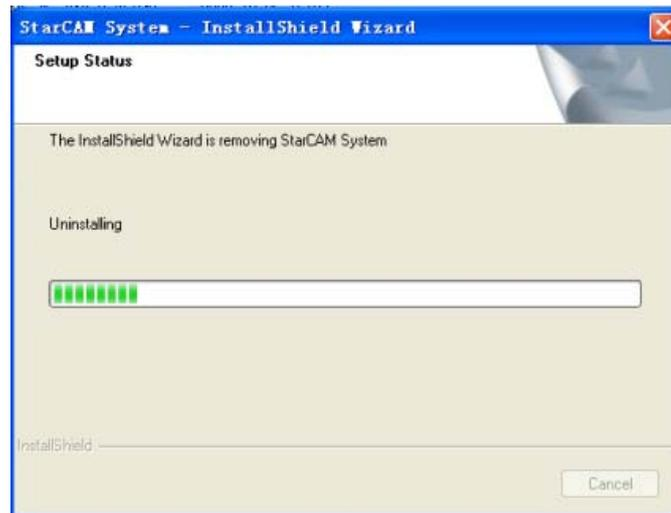

Figure 14
3. Click “No” to exit the operation, click “Yes” to enter the interface shown in Figure 14 to download files.